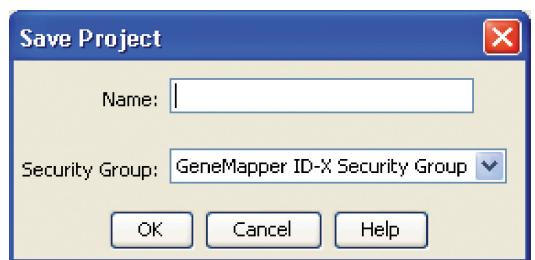

Figure 26. ‘Save Project’ window.
9. If all analysis requirements are met, the ‘Save Project’ window will open (Figure 26).